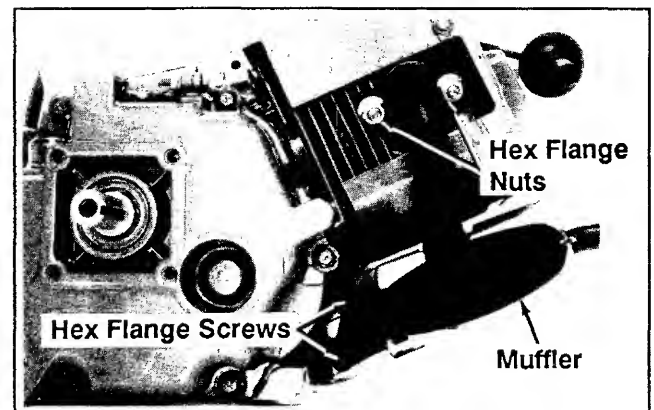

**Figure 9-8. Removing Carburetor.
1. Remove the throttle linkage from the throttle lever clip. See Figure 9-8.